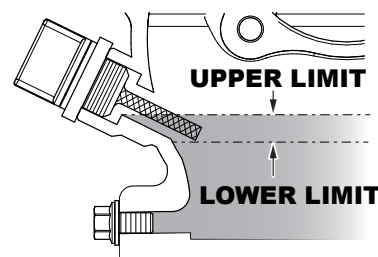

Figure 12. Engine Oil Level
4. If the oil level (Figure 12) is low, fill to the edge of the oil filler hole with the recommended oil type (Table 6). Refer to Table 4 for engine oil capacity.